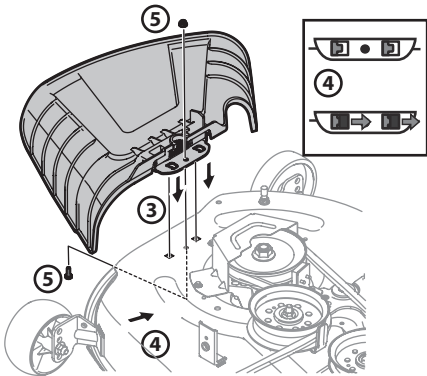

Figure 2-14
3. Place the chute deflector on the deck, be sure to insert the tabs on the chute deflector into the holes on the deck. See Figure 2-14.
4. When the tabs are installed in the deck, slide the chute deflector toward the rear of the tractor until the bolt hole in the chute deflector aligns with the hole in the deck. See Figure 2-14.
5. Secure the chute deflector in place with the flange lock nut and hex screw removed in step 2. Tighten to 102-124 in-lbs. See Figure 2-14.